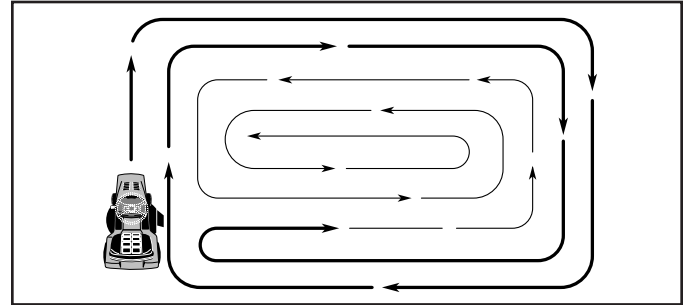

Fig. 14
- When mowing large areas, start by turning to the right so that clippings will discharge away from shrubs, fences, driveways, etc. After one or two rounds, mow in the opposite direction making left hand turns until finished (See Fig. 14).
- For best results, adjust the mower cutting height so that the mower cuts off only the top one-third of the grass blades (See Fig. 14). For extremely heavy mulching, reduce your width of cut on each pass and mow slowly.